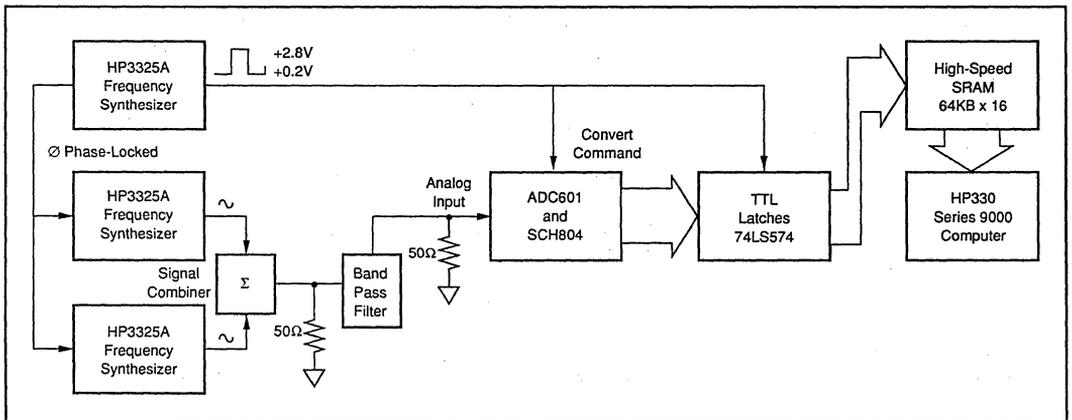

FIGURE 15. Block Diagram of FFT Test for Two-Tone IMD.
IMD two-tone testing shown in Figure 15 is referenced⁽³⁾ to the larger of the test signals f_1 or f_2 . Five "bins" either side of peak are used for calculation of fundamental and harmonic power. The "0" frequency bin (DC) is not included in these calculations as it is of little importance in dynamic signal processing applications.